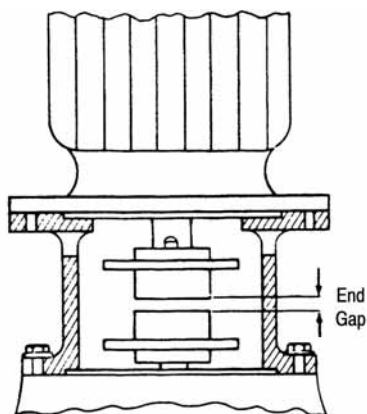

Figure 9. End Gap
- (d) Using a proper gauge, check the actual end gap (Figure 9) to verify that it is within the limits given in Table 2. If it is not, loosen the hub key set screw and move the hub up or down until the end gap is within limits. Re-tighten the set screw.